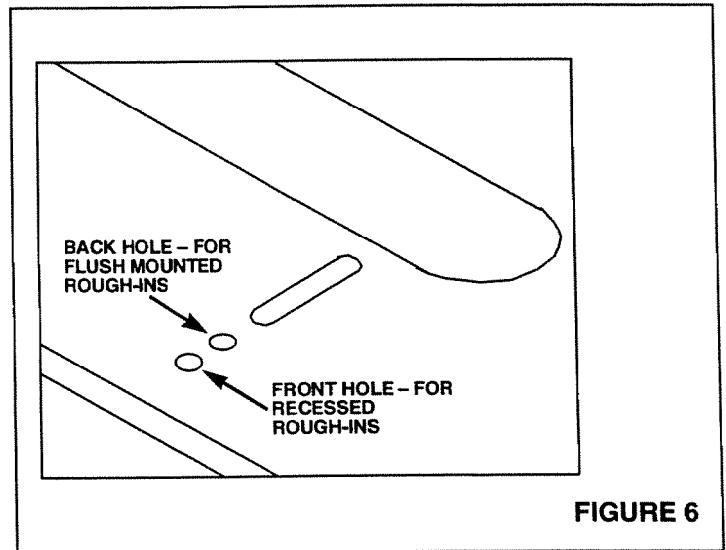

FIGURE 6
1. Refer to Figure 6. For rough-in frames which are recessed into the wall opening: Insert two No. 6 x 3/8" screws (provided) into the front two holes in the rough-in frame. Do not completely tighten screws.